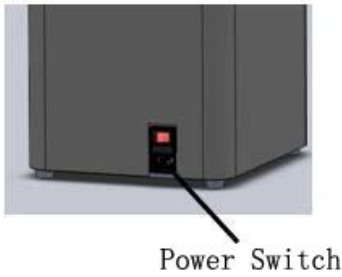
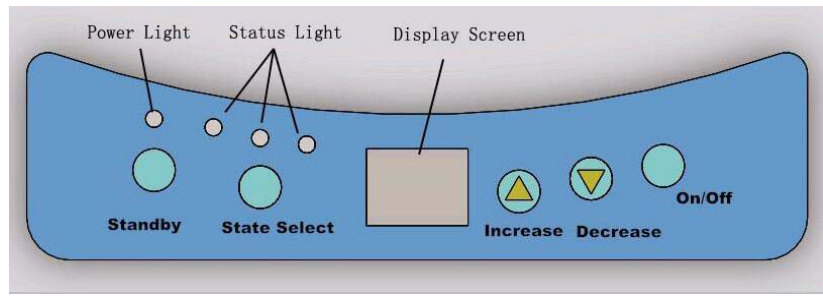

Figure 1.
Figure 2
1. Plug in the power cord , turn on the Power switch on the back of the machine, the light turns on, see Figure 1. Meanwhile The power indicator light on the control panel will be light, see figure 2.
2、 Press the standby button on the control panel, the LCD screen and the status indicator light on the operation panel will be light, see figure 2.
6、 Set the mixing time according to the amount of impression material, see Figure 2